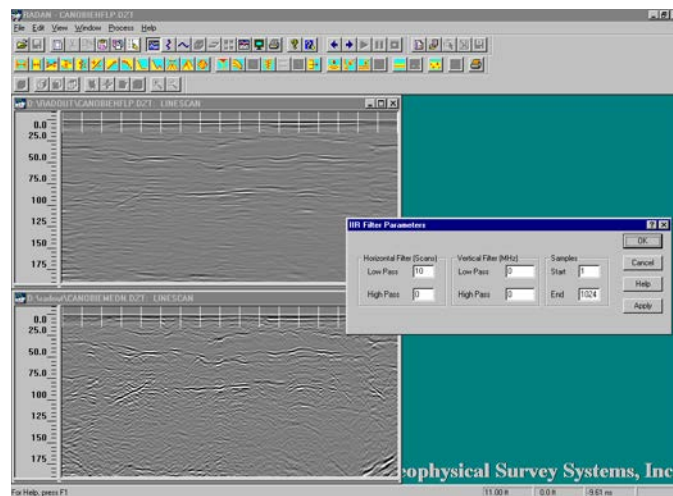

Figure 45: Example2.dzt. A 10 scan IIR Horizontal Low Pass (smoothing) filter applied.
- The section describing the O-Scope Display Format in this chapter explains how to obtain and analyze a frequency spectrum of your data. See Figure 45 for example of O-scope/spectrum display with linescan.